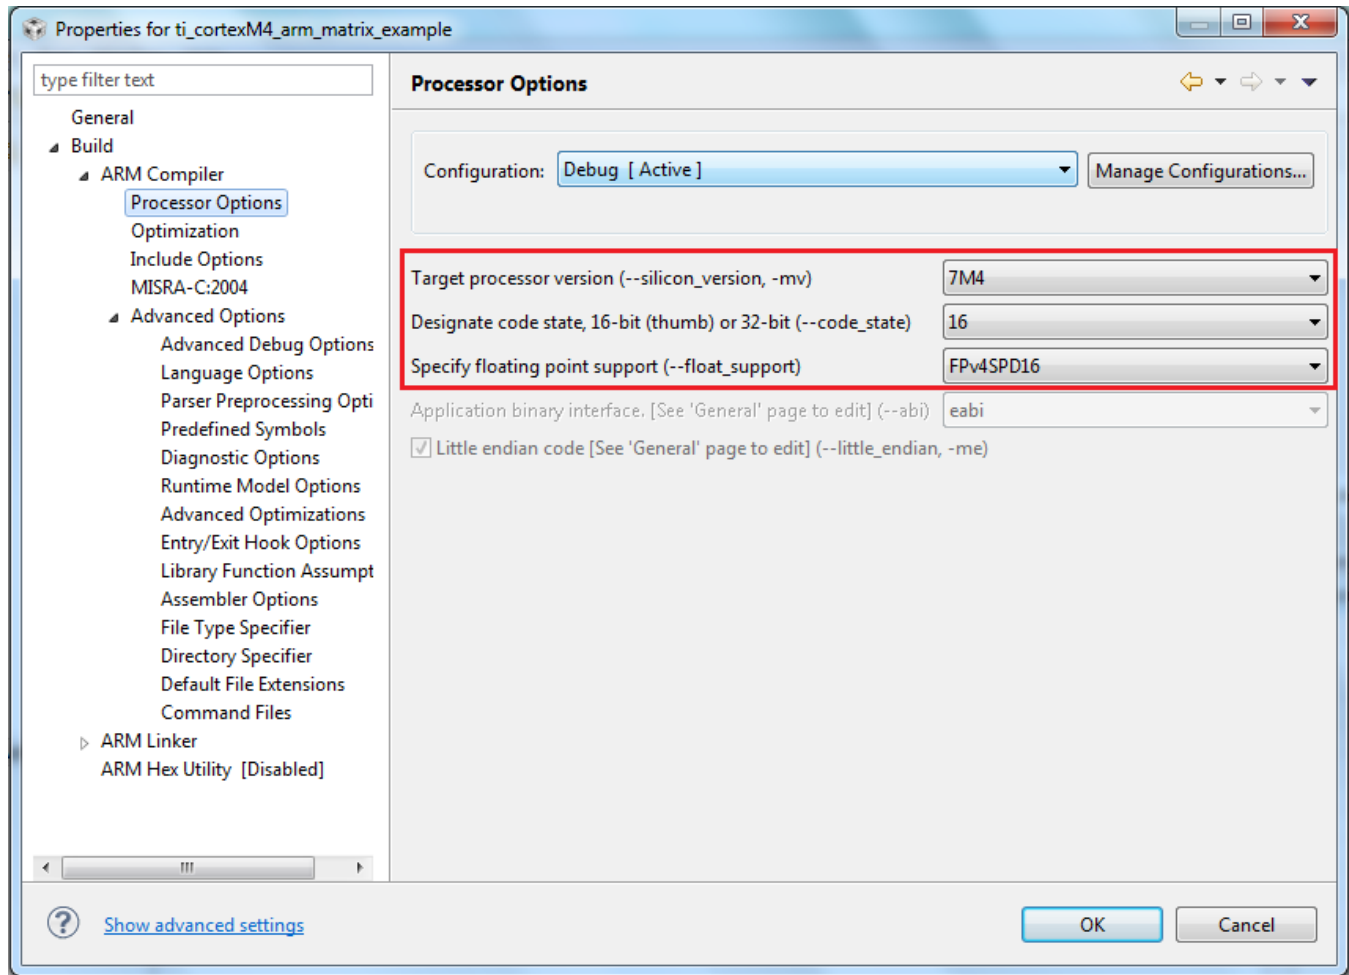

**Figure 16. Selecting the Proper Options to Link the Source Files Into the Project**
3. Select the *Link to files* radio button, check the *Create link locations relative to:* checkbox, and select PROJECT\_LOC from the drop-down menu when the File Operation dialog box appears (see Figure 16). Press **OK** to add the source file(s) to the project.